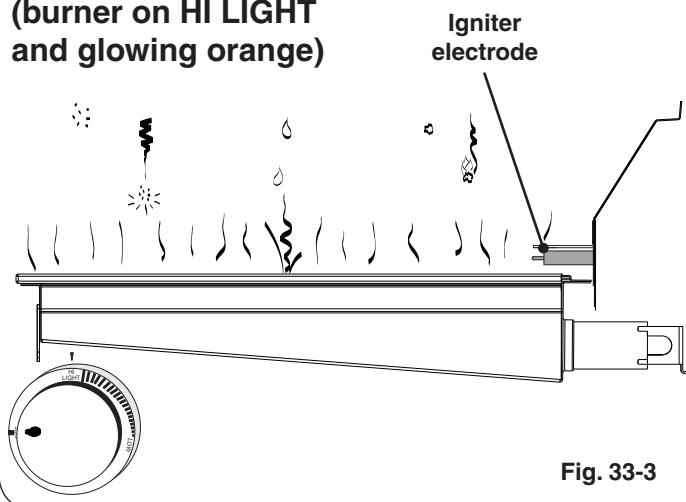

Fig. 33-3
- **DO NOT place food on the cooking grid until the infrared burner glows orange (Fig. 33-3).** Drippings are heated and evaporate instead of sticking to and impairing burner function.